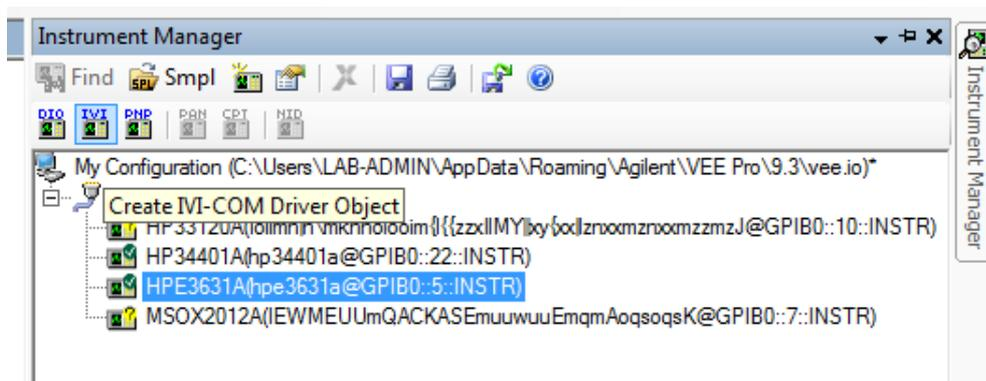

Fig. 11: Creating IVI-COM driver object for Agilent E3631A
- 5) Click on **HPE3631A** (DC Power Supply) and **IVI** button to create IVI-COM Driver Object as shown in Fig. 11. Place the driver in the work area.